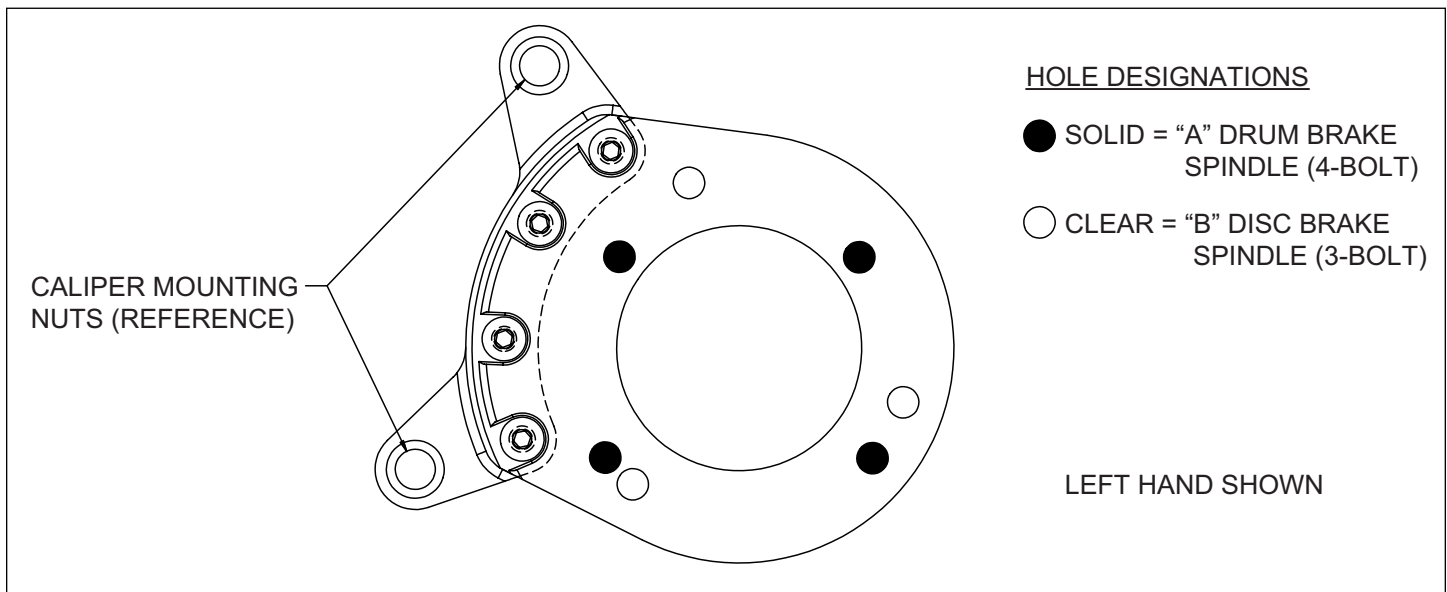
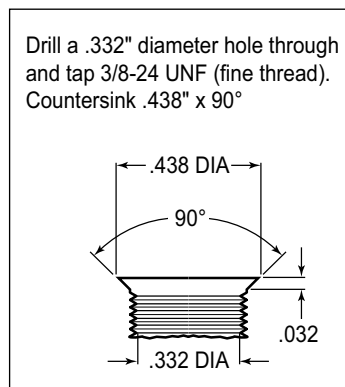
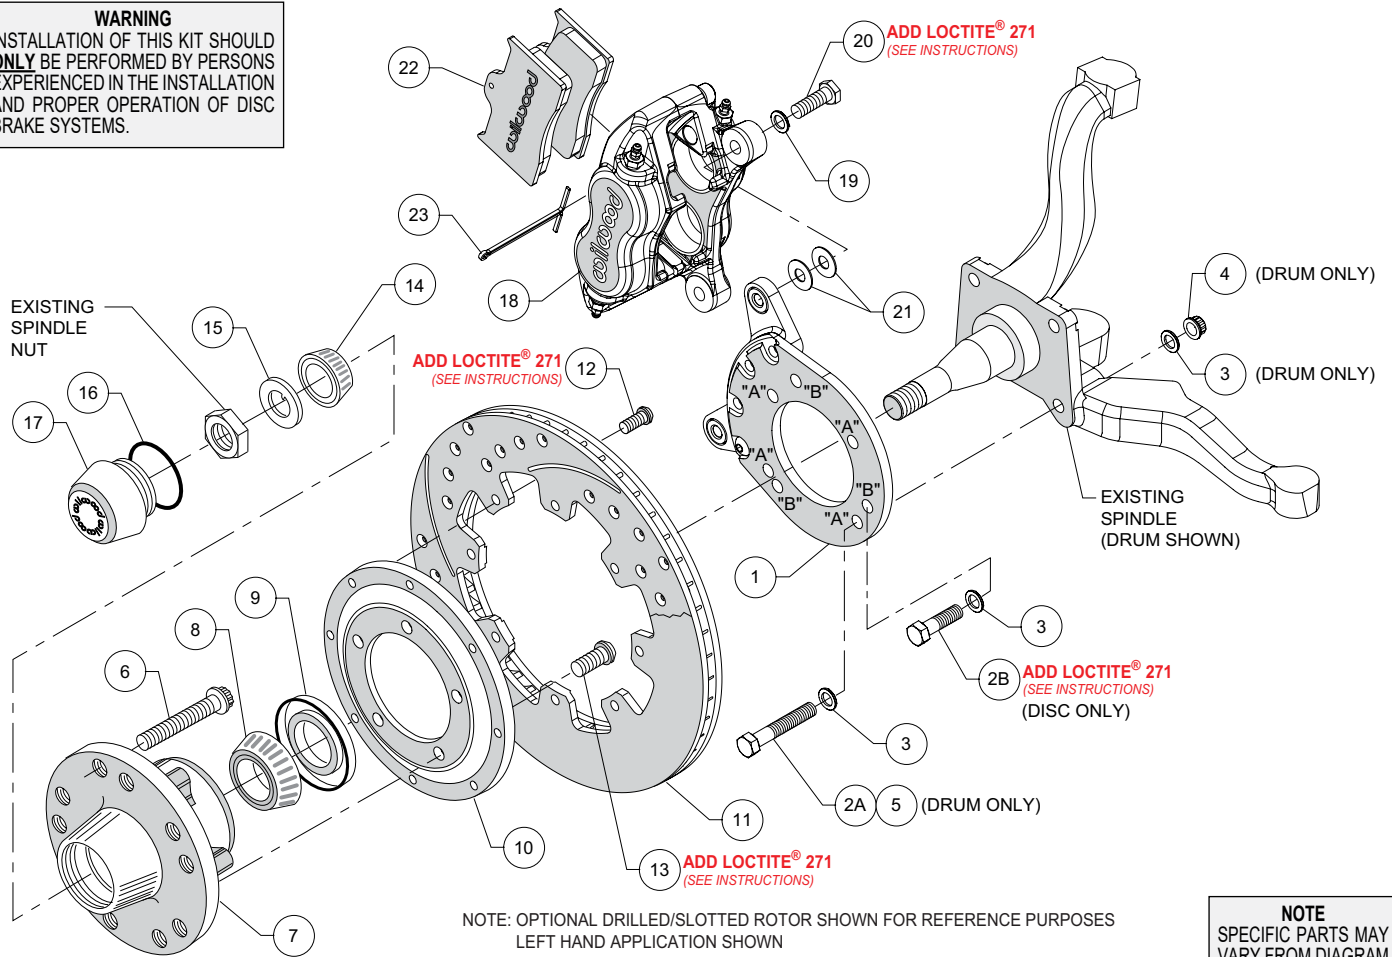
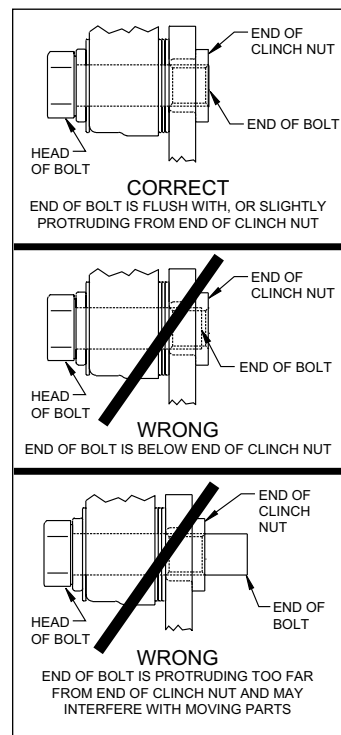

Figure 1. Wilwood Caliper Mounting Bracket
Figure 2. Drill and Tap Detail
Figure 4. Typical Installation Configuration
Figure 5. Clinch Nut Engagement Diagram
This kit has been designed for use with both the disc brake or the drum brake configuration of vehicle. The only difference is in how the Wilwood caliper mounting bracket is installed. The same bracket is used for both configurations; the disc brake version utilizes three mounting holes while the drum brake application uses four mounting holes (see Figure 1). For your convenience we have supplied bolt kits for both applications (see parts list and Figure 4 as necessary). Use the bolt kit that is applicable to your vehicle and disregard the other one.
NOTE: This modification should be performed by a qualified machinist and completed before assembly of the Wilwood disc brake kit begins. Using the caliper mounting bracket as a template (refer to Figure 1 as necessary), locate and verify the three original holes on the spindle that need to be modified. Drill a .332" diameter hole through all three holes, then tap 3/8-24 UNF (fine thread). Countersink the holes to .438" diameter x 90°, as shown in Figure 2.
NOTE: Numbers in parenthesis refer to the parts list on the preceding page and Figure 4.
CAUTION: All mounting bolts must fully engage clinch nuts. Be sure to check that all bolts are either flush or protruding through flanged side of clinch nut after shimming, Figure 5.
•**NOTE:** This kit uses the same mounting bracket (1) for both the drum and disc brake spindles. The drum version, Photo 1, uses four mounting bolts (designated "A"), while the disc version, Photo 2, uses three (designated "B"). Refer to Figures 1 and 4 for the basic installation position of the bracket and the "A" and "B" reference designations (not physically marked on the brackets).
For Drum Spindle: Align bracket, using the four "A" holes, to the face of the spindle and attach using bolts (2A and 5), washers (3), and lock nuts (4), as shown in Figure 4. Ensure that the flanged heads of the clinch nuts in the bracket are facing outboard, Photo 1. Torque nuts to 30 ft-lb.
For Disc Spindle: Align bracket, using the three "B" holes, to the face of the spindle and attach using bolts (2B) and washers (3), as shown in Figure 4. Finger tighten. Ensure that the flanged heads of the clinch nuts in the bracket are facing outboard, photo 2. Remove bolts one at a time, apply red *Loctite*® 271 to threads, and torque to 40 ft-lb.
- Install the grease seal (9) by pressing into the backside of the hub (7), flush with the end of the hub, Photo 4.
- Orient the rotor (11) and the rotor adapter (10) as shown in Figure 4 and Photo 5. Attach the rotor to the adapter using bolts (12). Using an alternating sequence, apply red *Loctite*® 271 to the threads, and torque to 25 ft-lb.
- Mount the adapter/rotor assembly (10/11) to the hub (7) using bolts (13), as shown in Figure 4 and Photo 6. Using an alternating sequence, apply red *Loctite*® 271 to the threads, and torque to 45 ft-lb.
- NOTE:** Please reference the caution statement at the beginning of the assembly instructions. Mount the caliper (18) onto the caliper mounting bracket (1) using bolts (20) and washers (19), as shown in Figure 4. Initially place two .035" thick shims (21) on each bolt between the caliper and the bracket, Photo 9. Temporarily tighten the mounting bolts and view the rotor (11) through the top opening of the caliper. The rotor should be centered in the caliper, Photo 10. If not, adjust by adding or subtracting shims between the bracket and the caliper. Always use the same amount of shims on each of the two mounting bolts. **NOTE:** The end of each bolt must be flush with or slightly protruding from the head of the clinch nut, as shown in Figure 5. If necessary place spare shims between washer (19) and caliper mounting ear to achieve the proper clinch nut engagement. Once the caliper alignment and clinch nut engagement are correct, remove the bolts one at a time, apply red *Loctite*® 271 to bolt threads, and torque to 40 ft-lb.